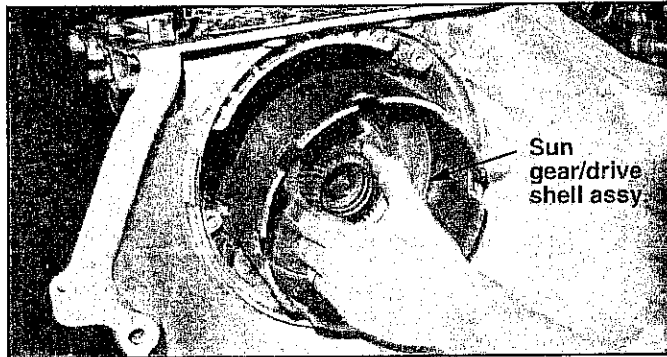

FIGURE 12
STEP 19. Remove the sun gear/driving shell assembly. (See Fig. 12) Grasp the sun gear and pull the assembly out of the case. The four-tab sun gear drive shell thrust washer may be stuck to the back of the drive shell.